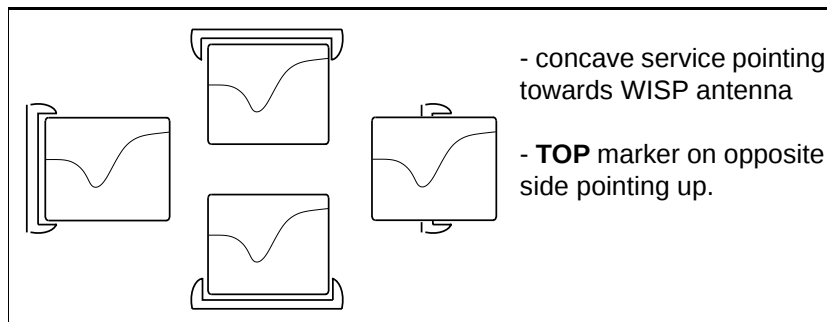

Figure 7 Mounting the Antenna in the Bracket
3. Position the antenna in the bracket according to one of the configurations illustrated in Figure 7. Click and lock the antenna in place. For maximum signal reception, ensure that